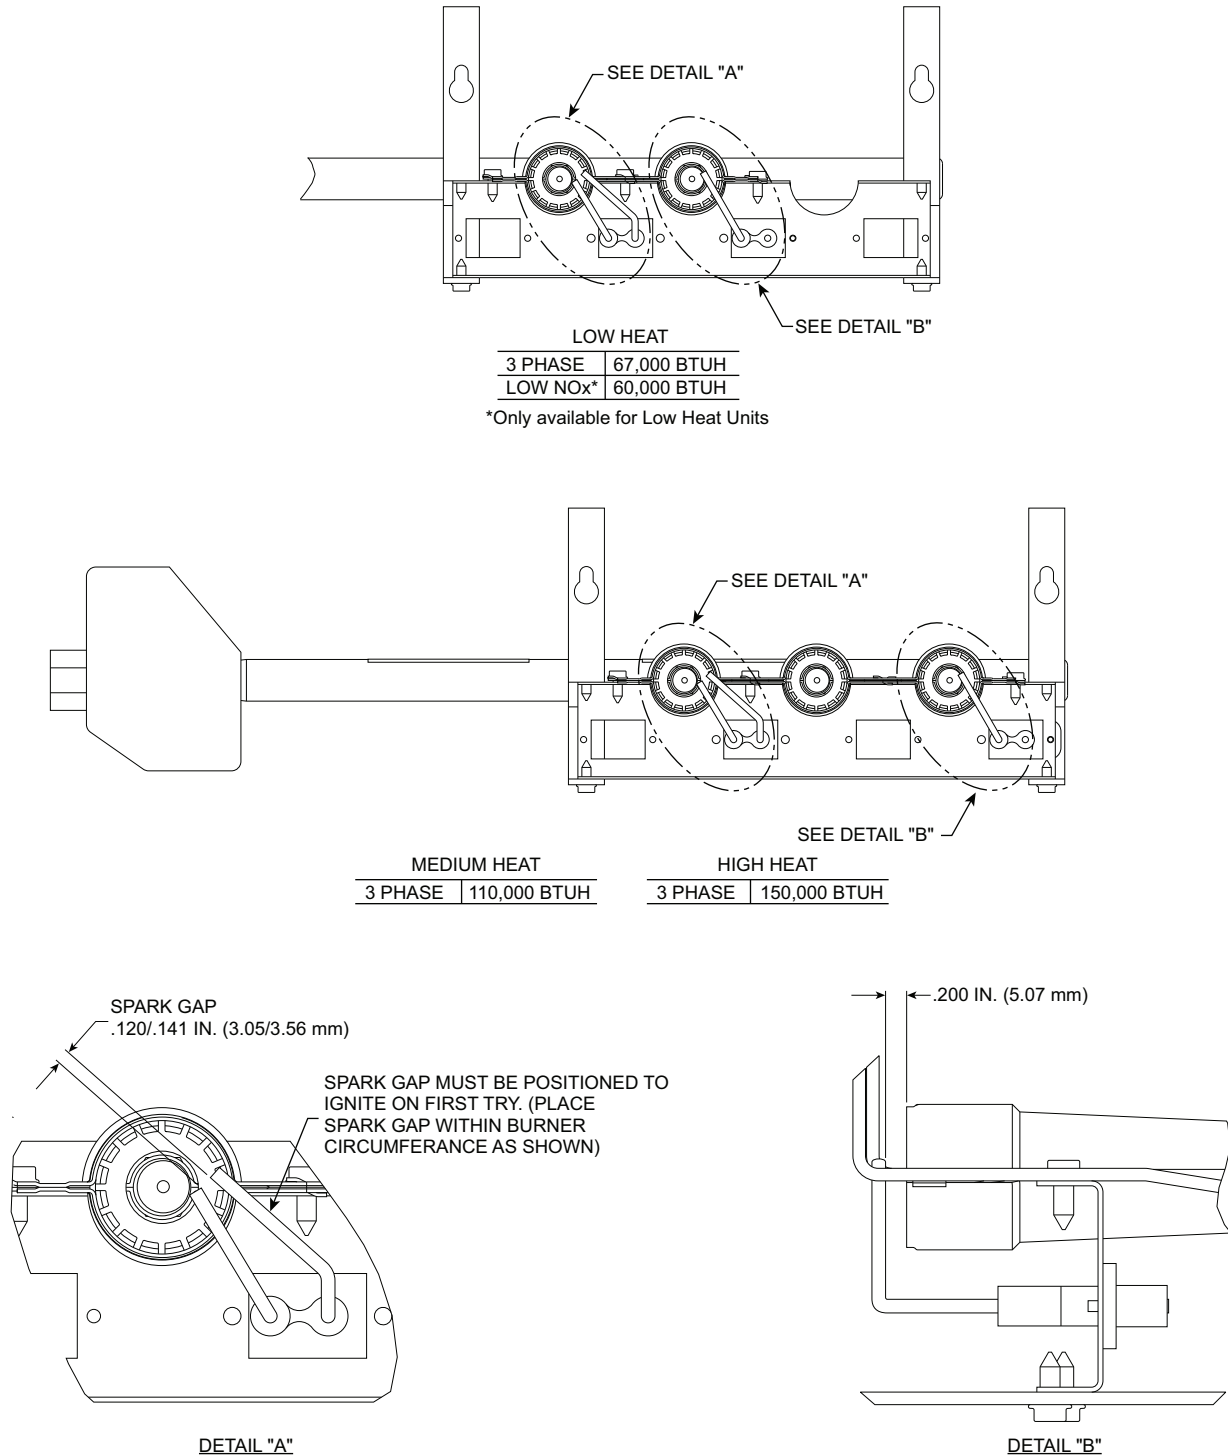

Fig. 50 — Spark Adjustment (Size 04-06)
4. Adjust spark gap. (See Fig. 50.)